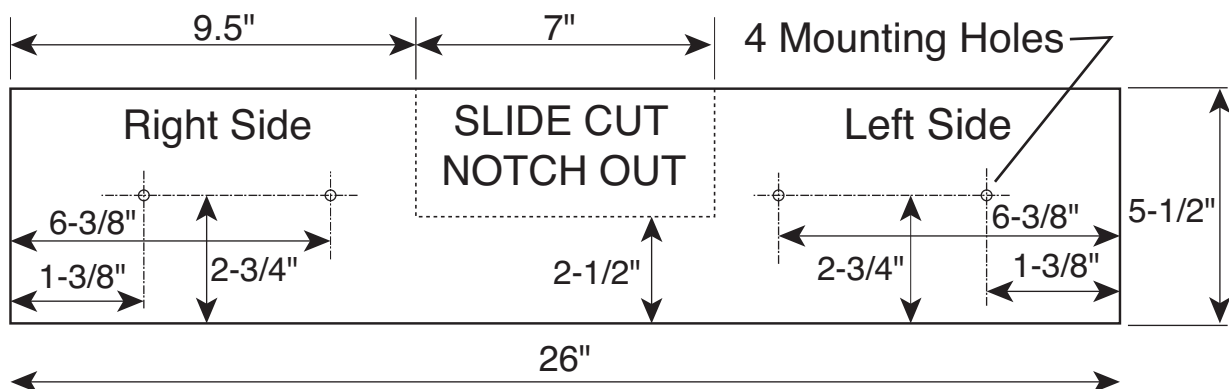

Figure 37. Tall Auxiliary Wood Fence - $\frac{3}{4}$ " Thick
1. Use $\frac{3}{4}$ " thick piece of wood (plywood is preferred) to cut an auxiliary fence based on dimensions shown in Figure 37.